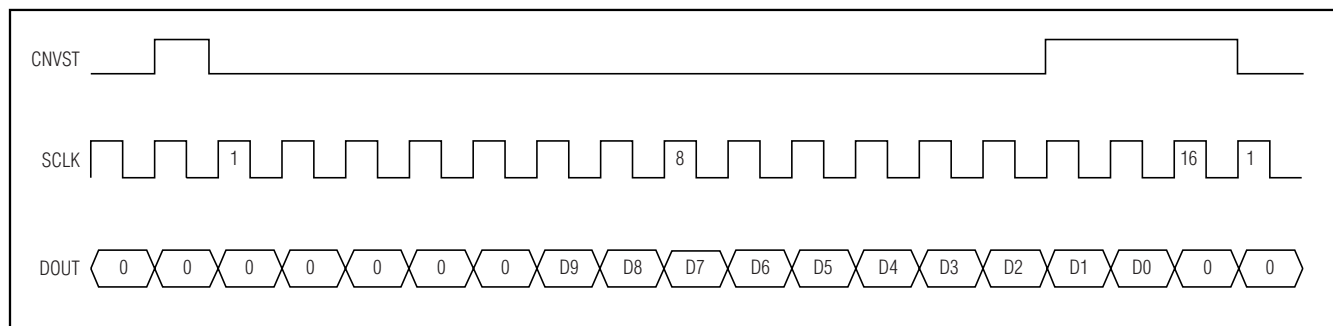

Figure 17. DSP Interface—Continuous Conversion
The MAX1334/MAX1335 can also be connected to the TMS320C54_ by using the data-transmit (DX) pin to drive CNVST and the transmit clock (CLKX) generated internally to drive SCLK. A pullup resistor is required on the CNVST signal to keep it high when DX goes high impedance and write (0001)h to the data-transmit register (DXR) continuously for continuous conversions. The power-down modes can be entered by writing (00FF)h to the DXR (see Figures 17 and 18).
versions, idle CNVST high and pulse it low for the entire conversion. Configure the ADSP21_ _ _ STCTL and SRCTL registers for late framing (LAFR = 1) and for an active-low frame (LTFS = 1, LRFS = 1) signal. This is also the best way to enter the power-down modes by setting the word length to 8 bits (SLEN = 0111). Connect the DVDD pin to the ADSP21_ _ _ supply voltage (see Figures 17 and 18).